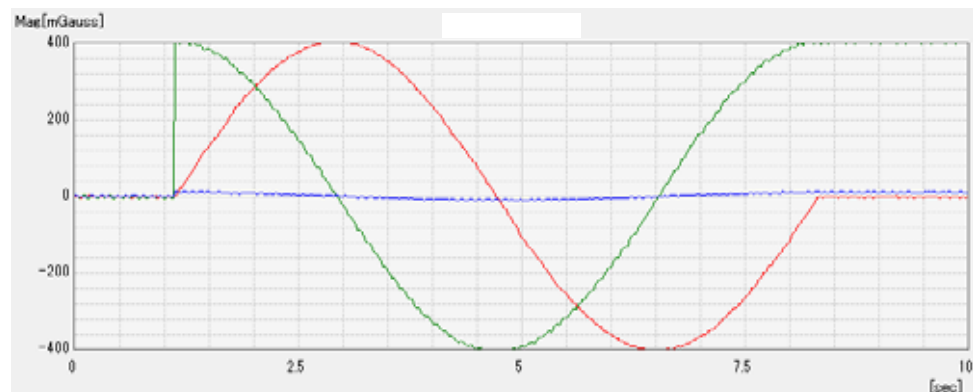
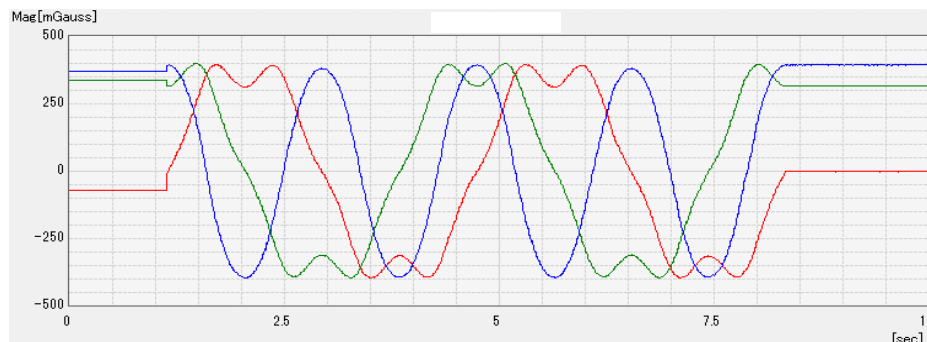

Fig. 8 3-axis magnetometer read value of ROTATE mode simulation
Fig. 9 3-axis magnetometer read value of FIGURE8 mode simulation
Fig. 8 shows the read values from an evaluation sensor placed within the coils when the command “MAG START ROTATE 2 4000 0 10 1 20” is run.
- **“MAG START FIGURE8” command**
- Comment Outputs a simulated figure 8 motion with “radius” as the field strength, switching the angle “span” at “interval” time for the duration of “turns”.
- Example **MAG START FIGURE8 5000 10 1 20**
Fig. 9 shows the read values from an evaluation sensor placed within the coils when the command “MAG START FIGURE8 5000 10 1 20” is run
- "FIGURE8" Outputs a simulated figure 8 magnetic vector according to the designated conditions (frequency, angle, size)